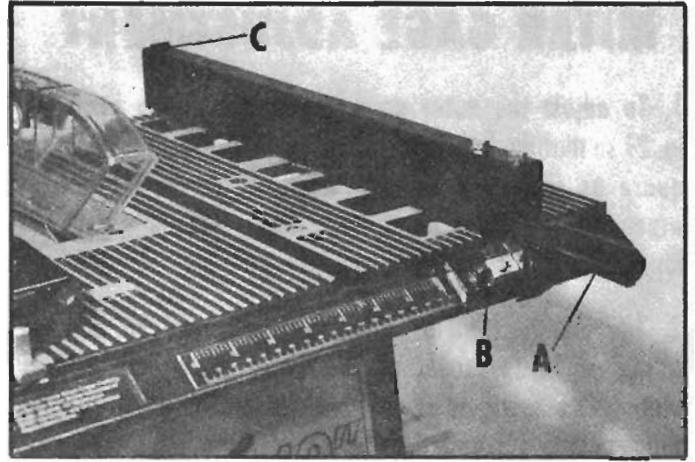
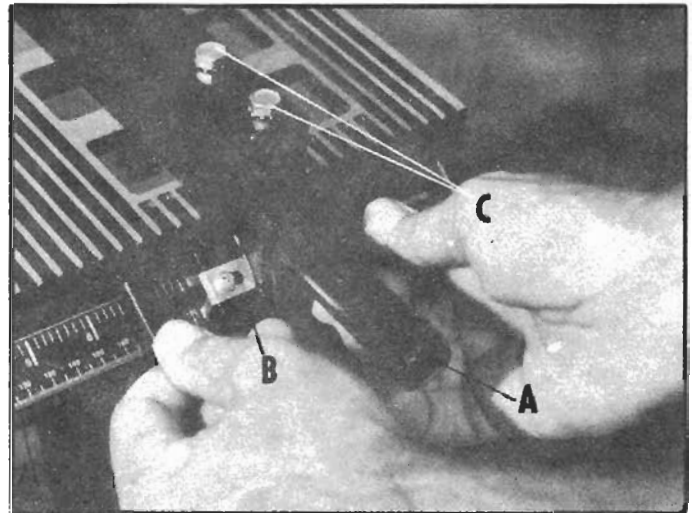
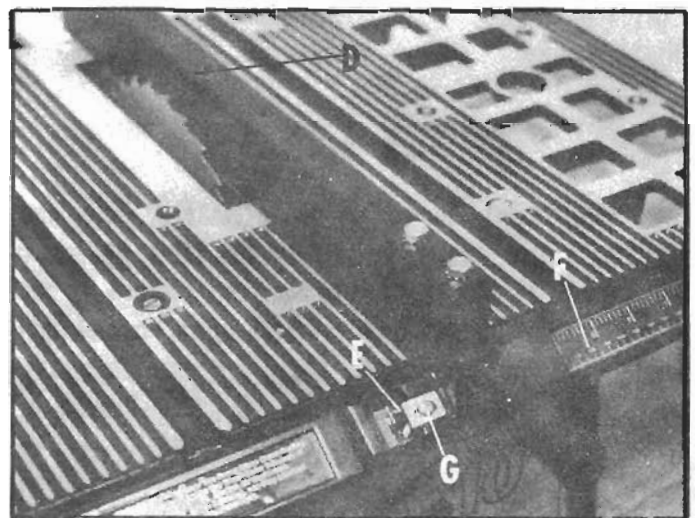

Fig. 26
Fig. 27
Fig. 28
For shipping purposes, the rip fence lock knob (A) Fig. 26 was removed. The rear clamp (C) Fig. 26 on the rip fence is spring loaded. Therefore, while removing the temporary nut and replacing it with knob (A), hold the rear clamp against the spring's thrust.
The rip fence can be used on either side of the saw blade. The most common location is on the right hand side as shown in Fig. 26. To move the rip fence, loosen lock knob (A) Fig. 26 and move the fence to the desired position.
IMPORTANT: BEFORE TIGHTENING RIP FENCE LOCK KNOB (A) FIG. 26, ALWAYS PUSH FENCE CLAMP BODY (B) AGAINST FRONT OF TABLE AS SHOWN IN FIG. 27 TO ENSURE PROPER ALIGNMENT OF FENCE TO BLADE. TIGHTEN LOCK KNOB (A) FIG. 26 AND FIG. 27.
The saw blade is set parallel to the miter gage slots at the factory and by following the instructions on Page 9. The fence should now be adjusted so it is parallel to the miter gage slots. To check the rip fence, set it at one of the miter gage slots and push in on fence body as shown in Fig. 27. Lightly tighten lock knob (A) Fig. 27. If an adjustment is necessary, loosen two screws (C) Fig. 27. Move the back end of the fence to the right or left, lining it up with the miter gage slot. Tighten two screws (C) Fig. 27.
The rip fence (D) Fig. 28 can be set for any desired width of rip cut on the right hand side of the blade by using the rip scale (F) and pointer (E), Fig. 28. To adjust the pointer (E), slide the rip fence to the left until it just touches the tips of the blade teeth, then carefully tighten the lock knob (A) as shown in Fig. 27. The pointer (E) should now read "zero" on the rip scale (F). If an adjustment to the pointer is necessary, loosen screw (G), adjust pointer (E), and retighten screw (G).
2. To correct this, first check that the rip fence is parallel to the miter gage slot in accordance with Fig. 27 and instructions.
1. If not 3 inches, readjust the pointer (E) Fig. 28 per instruction.